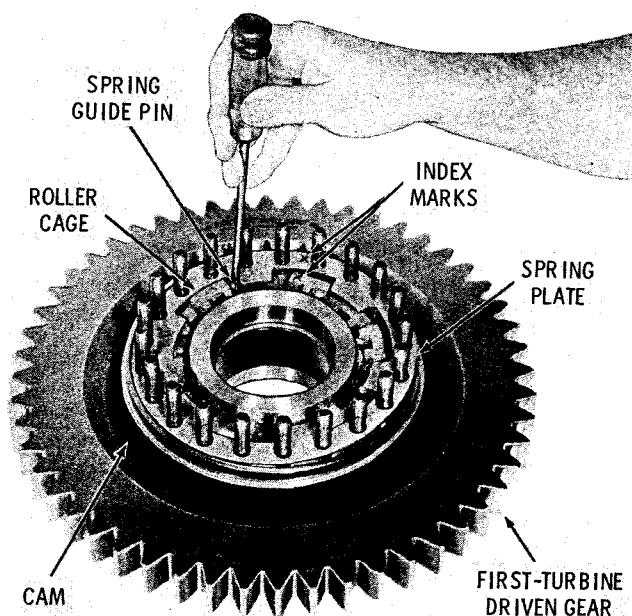

Fig. 6-19. Seating spring guide pin against plate
Observe the small index marks (X) on the spring plate and roller cage (fig. 6-19). If necessary, rescribe these marks for positive identification during reassembly.
(4) Remove spring plate 11 (A, foldout 4), three spring pins 12 and springs 13 from roller cage 14. Separate the roller cage from freewheel cam 16.
(5) Remove bushing 5 (or 9) from its bore only if replacement is necessary.
(6) Align the index marks (X) on the spring retainer plate and roller cage, and install the retainer plate (fig. 6-19). Using a small screwdriver against the guide pin, compress the spring sufficiently to allow the guide pin to act against the tang of the retainer plate. Repeat the operation for the remaining two springs and guide pins, making sure that each guide pin is firmly against the tang of the retainer plate.
(7) Install gear assembly 3 (A, fold-out 4) or driven gear shaft assembly 7, splined end first, into the assembly shown in figure 6-19. Press the gear into the assembly until bearing 10 is firmly seated against snapping 19. If gear shaft 8 is used, install driven gear 6. Install twenty-one self-locking nuts 2 onto bolts 17. Tighten the nuts to 41-49 lb ft (56-66 N·m).
(8) Turn the assembly over and install notched spacer 20 and bearing 21, shielded side first, onto the shaft. Install spacer 22 and bearing 23, shielded side first, onto the shaft. On later models, bearing 23 is not shielded, but does have a loading notch. Install the later bearing, notch last, onto the shaft. Install spacer 24 and bearing 25.